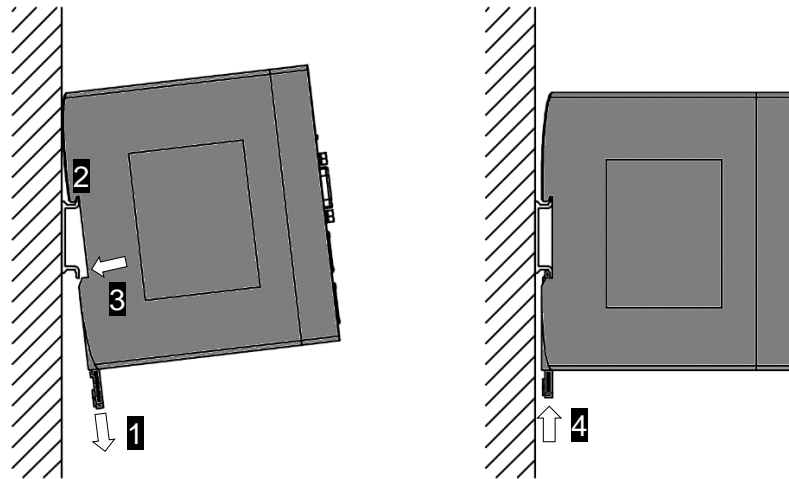

Fig 5.3: Orientation and order for mounting the controller to the DIN rail
- To avoid heat accumulation, the front side of the controller must be straightly aligned with the DIN rail and directed ahead, the ventilation hole on the top board should be facing the ceiling, and the ventilation holes of the bottom side face toward the ground. (See Figure 5.3)